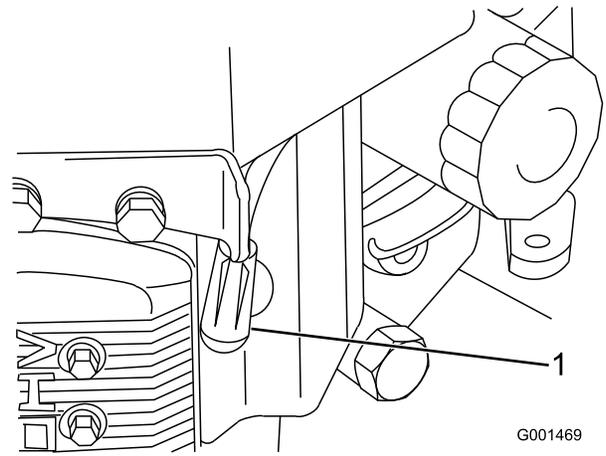

Figure 32
3. Disconnect the wires from the spark plugs (Figure 32).